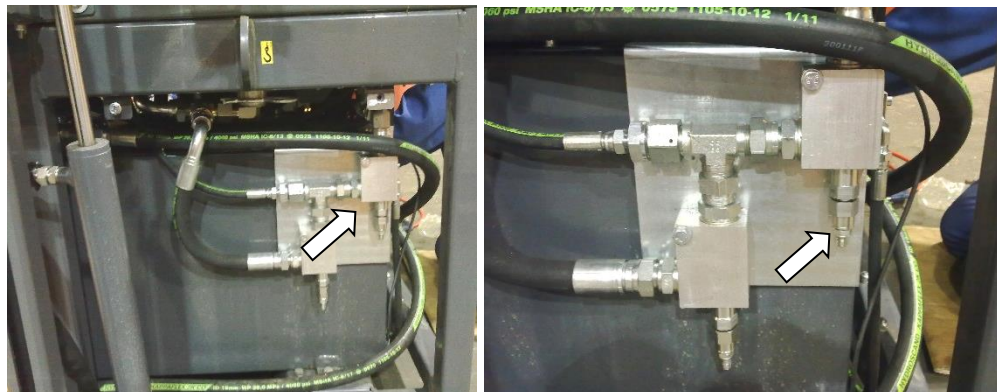

Figure 39. Adjusting the speed and the power of the splitting cylinder
- There are two integrated cylinders in the splitting cylinder. It is a double-acting cylinder: the speed of the splitting movement is generated by the smaller cylinder and the power when both of the cylinders push simultaneously. The speed and the delay can be adjusted from the upper valve (Figure 39).